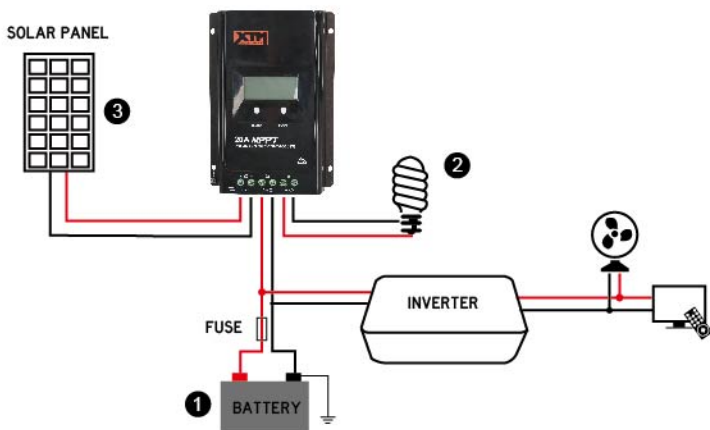

Figure 2-2 Wiring Diagram
Step 2: Connect the system in the order of battery  -- load  -- PV array  following Figure 2-2," Schematic Wiring Diagram," and disconnect the system in the reverse order.